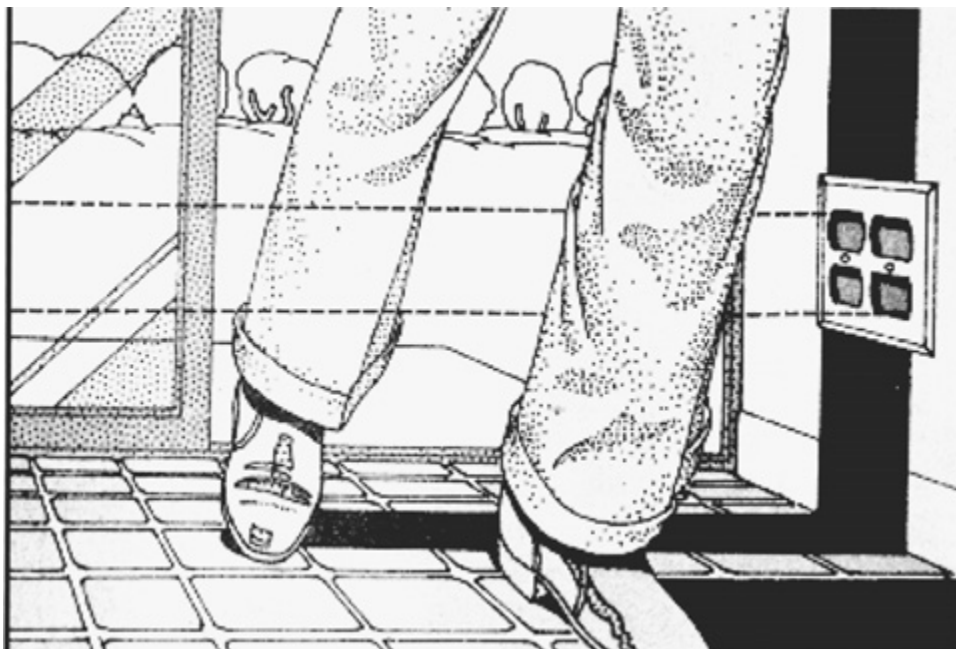

Figure 7.18 Transceivers and reflectors are located approximately 18 inches above the floor so that an intruder will break the beam.
infrared photoelectric entry detectors were used at the front door (Fig. 7.18). The transceivers are positioned at the locations indicated by appropriate symbol (1) and the reflectors are located directly opposite the transceivers on the opposite wall. Each of these units resembles a conventional quadruplex receptacle (Fig. 7.18). The centers of these outlets are located approximately 18" above the finished floor so that an intruder will break the beam as shown.